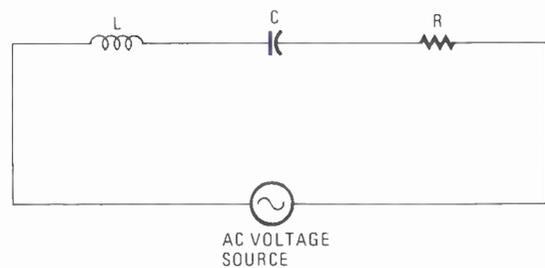

Fig. 1—A series LCR circuit must contain at the very least an inductor (L), a capacitor (C), and a resistor (R).
2. (oppose) Inductors or capacitors can each be used with resistance to form a combined opposition called *impedance* ( $Z$ ). As shown in Fig. 1, inductors and capacitors can be used together to form a combined impedance. An inductor (L), capacitor (C), and resistor (R) are all connected in series to an AC voltage source. This is called an LCR circuit. The total